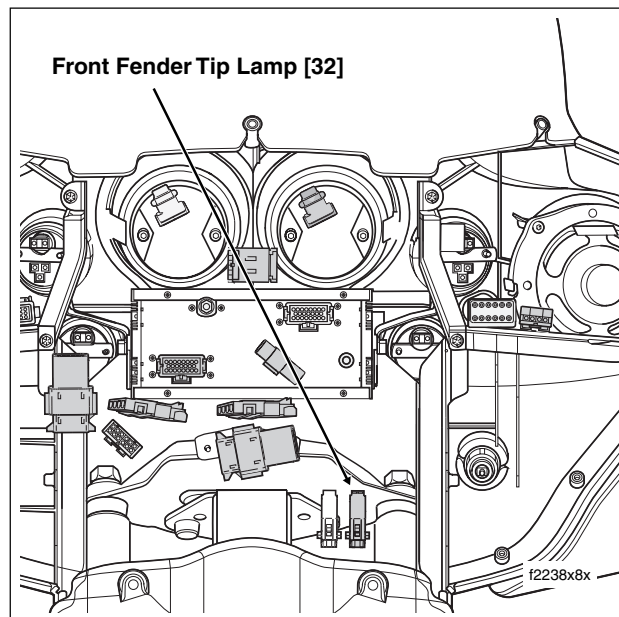

Figure 2-177. Inner Fairing (FLHT/C/U)
1. **FLHT/C/U:** Reaching in below the fairing cap on the left side of the steering head, locate the front fender tip lamp connector (black 2-place Multilock). See Figure 2-177. Remove the outer fairing only if necessary. See Section 2.29 UPPER FAIRING/WINDSHIELD \(FLHT/C/U\), OUTER FAIRING/WINDSHIELD, REMOVAL.